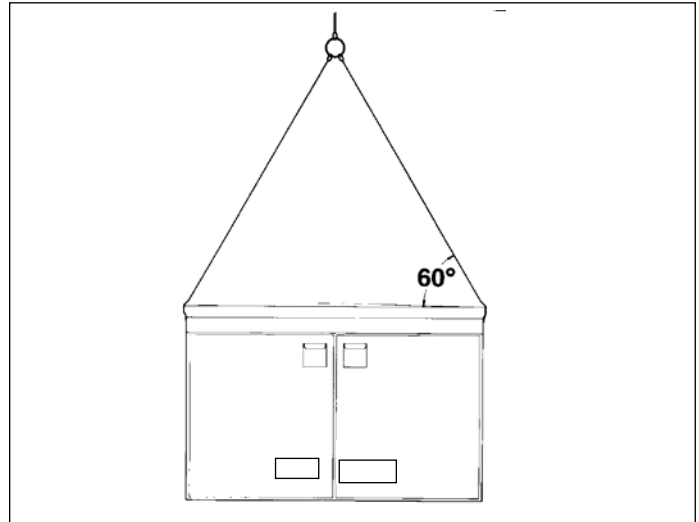
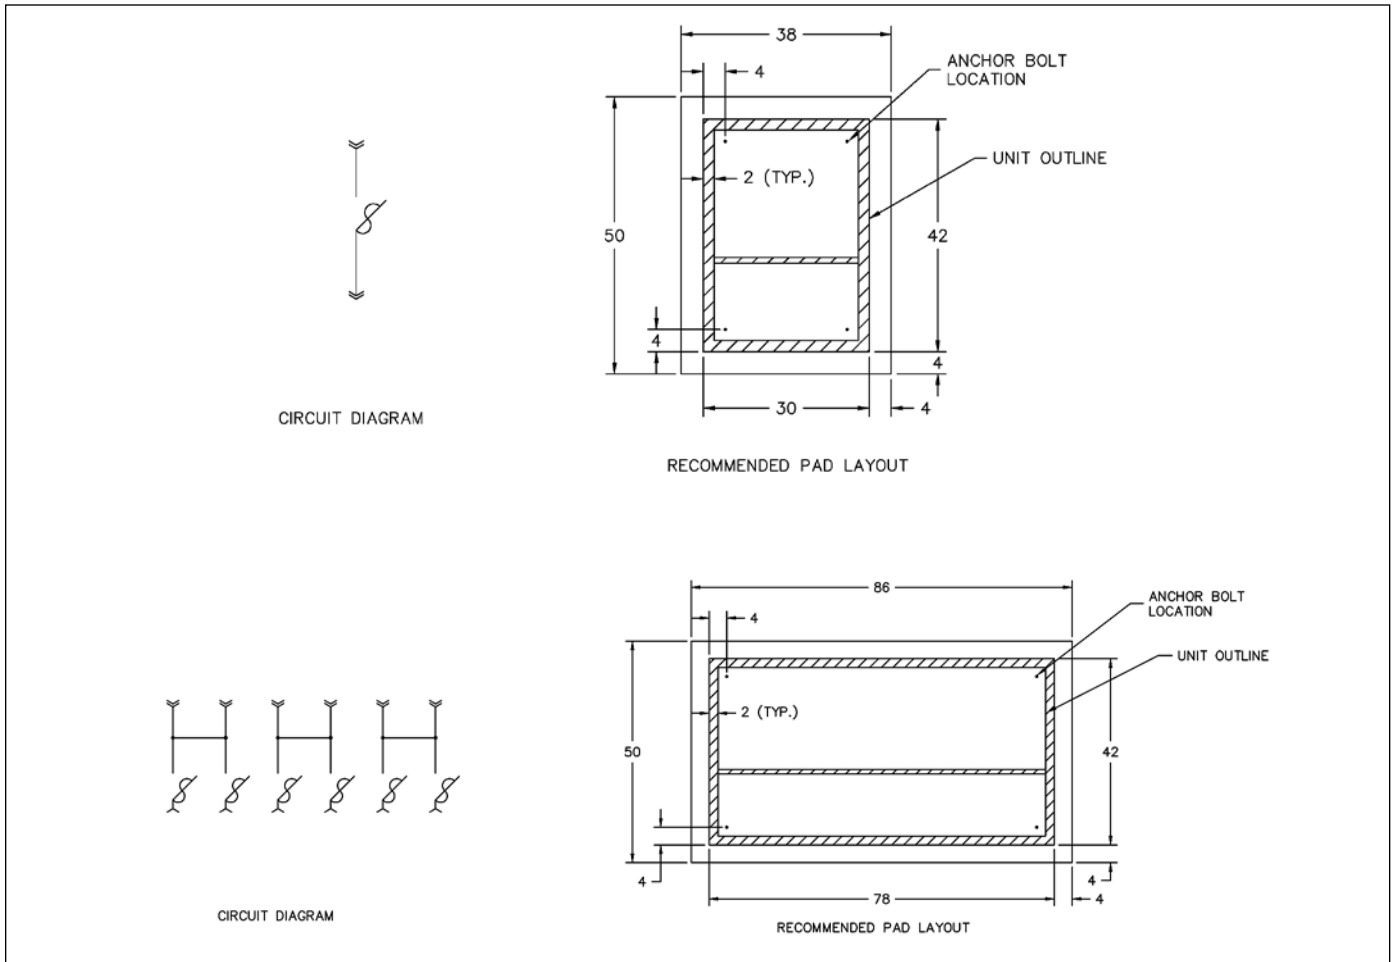
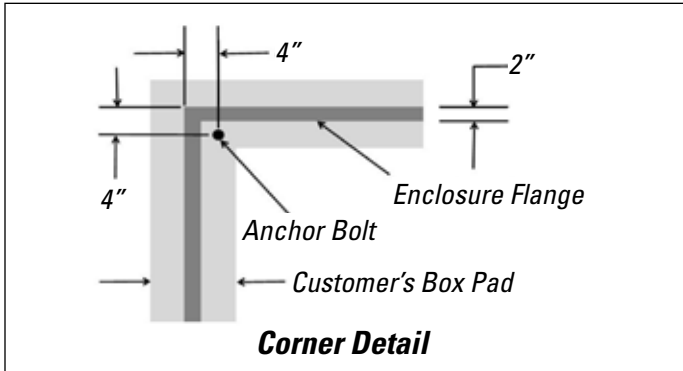

Figure 2. Lifting Method
Figure 9. Typical pad layouts and associated circuit diagrams. DO NOT USE FOR CONSTRUCTION PURPOSES.
Figure 10. Typical Anchor Bolt Location
Do not lift at an angle less than 60° from the horizontal. See Figure 2. Failure to comply with this requirement may result in damage to the equipment.
Remove unit from shipping pallet per handling procedures on Page 3 (see Figure 2). When unit has been correctly oriented and placed on pad (see Figure 9), verify that unit is level and shim if necessary between unit base and pad. Secure unit to pad using four (4) tie-down clips as furnished (see Figures 10 and 11). Check compartment door operation for any binding due to enclosure distortion and re-shim if necessary. A recessed grouting should then be applied between unit base and pad to prevent entry of foreign objects and moisture.